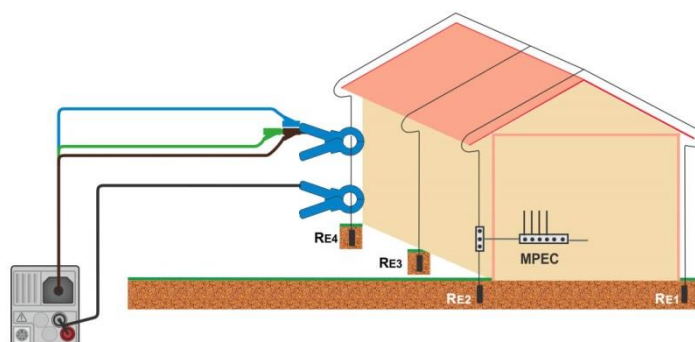

Figure 7.71: Contactless earthing resistance measurement
- › Clamp on object under test, see **Figure 7.71**.